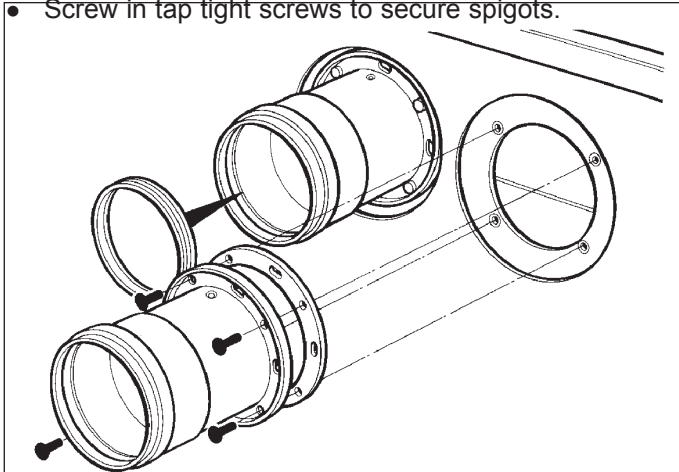

Fig. 11
- Locate and secure 100mm air inlet spigots, 1 gasket and 4 screws. (See Fig. 11). It is advisable to stick the gaskets to the appliance using a sealant to ease the fitting.